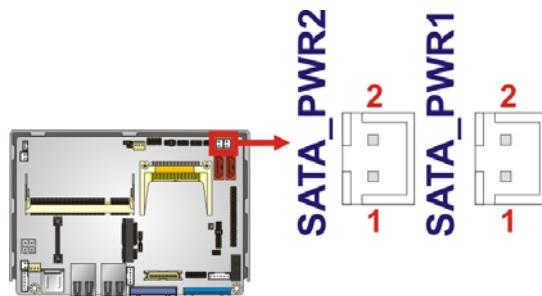

Figure 3-18: SATA Power Connector Locations
**CN Location:** See Figure 3-18